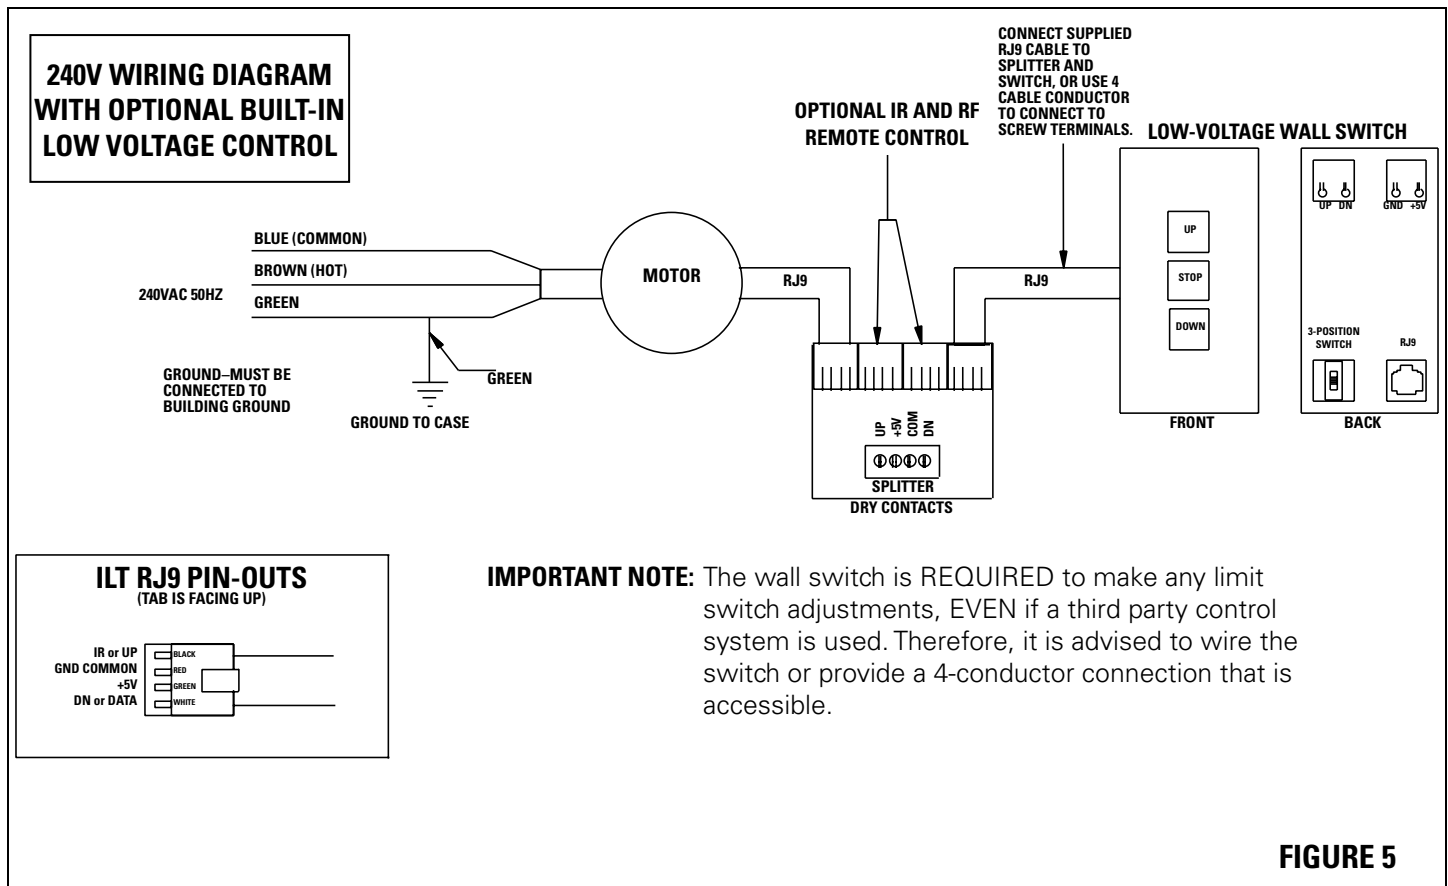

FIGURE 5
2. Locate small 3-position switch on back of wall switch. (See Figure 5)